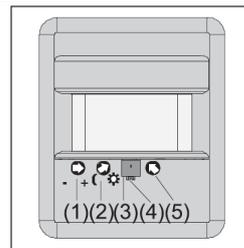

Figure 23
1. Select automatic mode; bring selector (3) into middle position (Fig. 23).
2. Set brightness potentiometer (2) to daytime operation (fully anticlockwise to the “sun” symbol).
3. Set shut-off delay potentiometer (4) to approx. 10 seconds.
4. Set sensitivity potentiometer (1) to maximum value (Fig. 23).